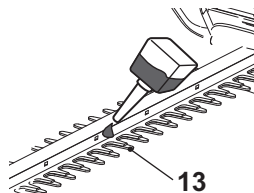

Fig. 13
11. Lubricate the internal surfaces of the blade if the cutting device (blade) (13) overheats during operation (Fig. 13).
1. Keep the cutting device (blade) (13) clean and free of debris. Remove trimmings with a brush.
2. Apply a small amount of suitable lubricant on the cutting device (blade) to retain a good cutting performance (Fig. 13).